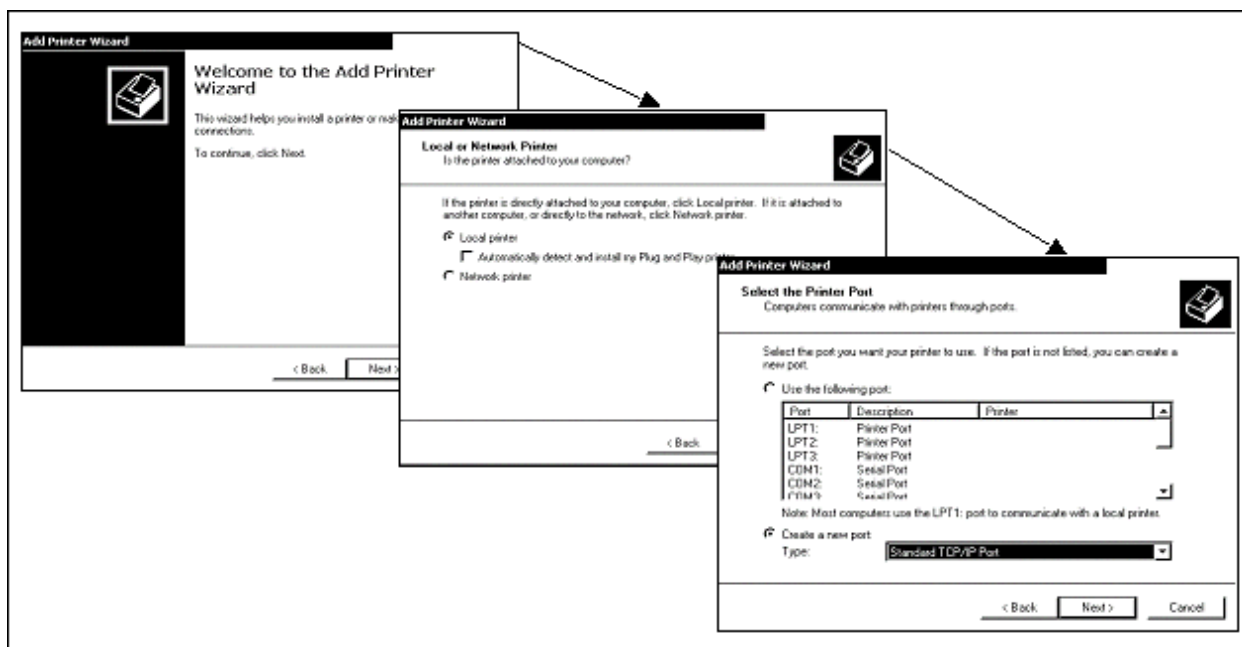

Figure 6-23: Adding a TCP/IP Printer, Steps 1-3
1. Click the Next button on the welcome screen (Figure 6-23).